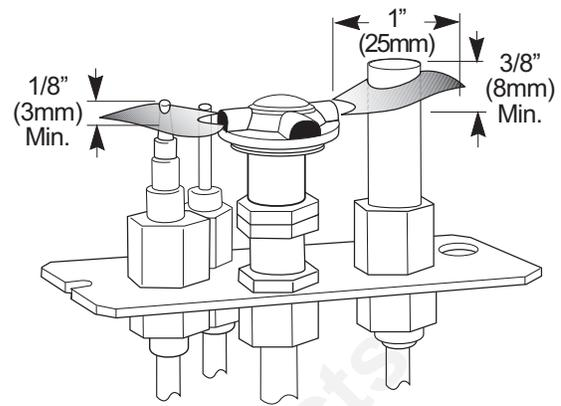

Figure 37. Proper pilot flame appearance.
2. **PILOT FLAME:** You can monitor the pilot flame through the view port located at the rear of the Right Log. See fig. 37. The pilot flame should be steady - not lifting or floating. The flame should be blue in color around the pilot hood, with traces of yellow toward the outer edges.
The pilot flame should engulf the top 3/8" of the thermopile (to generate millivolt current) and the top 1/8" of the thermocouple. The pilot flame should project out of all three pilot hood ports 1" and over to the burner plate carry-over ports. See figs. 37 and 37a.